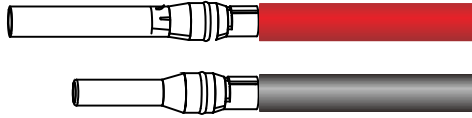

Figure 5.9 Crimping metal terminals
- Step 2 : Insert the exposed areas of the positive and negative DC cables into the metal terminals of the positive and negative connectors respectively and then crimp them, as shown in Figure 5.9.